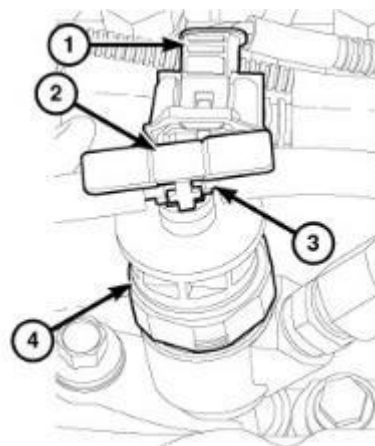

Figure 30 – Fuel Injector Return Line and Locking Tab
36. Disconnect the injector electrical connector (1) (Figure 30).
37. Lift up on the locking retaining tab on the fuel return lines (2) to unlock the lock. Remove the fuel return hose (3) by wiggling hose free at the fuel injector (4) (Figure 30).
57. Connect the right fuel rail pressure sensor wire harness connector (1) (Figure 30).